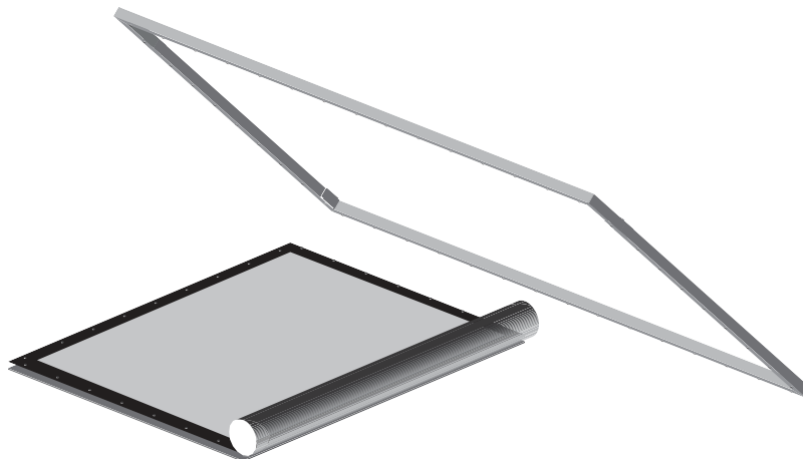

Figure 13: Unrolling the Screen
2. On a clean surface, unroll the screen **viewing side up** (see Figure 13).
4. Place the frame over the screen, snap side down (see Figure 13).